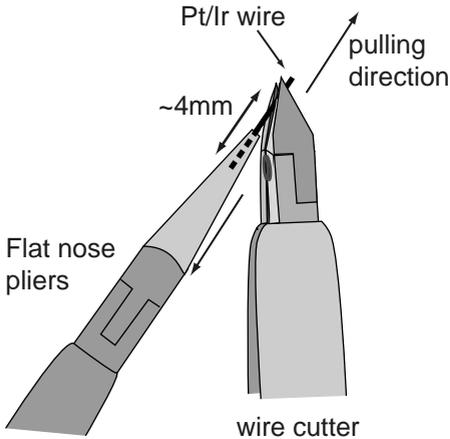

Figure 3-1: Cutting the STM tip
- ❶ Hold the end of the wire firmly with the pliers.
- ❷ Holding the wire with the pliers, move the cutters at a length of approximately 4 mm, as obliquely as possible (*Figure 3-1: Cutting the STM tip*).
- ❸ Close the cutters until you can feel the wire, but do not cut the wire.
- ❹ Pull in the direction shown in *Figure 3-1: Cutting the STM tip*. The tip needs to be torn off rather than cleanly cut through, in order to obtain the required tip sharpness.